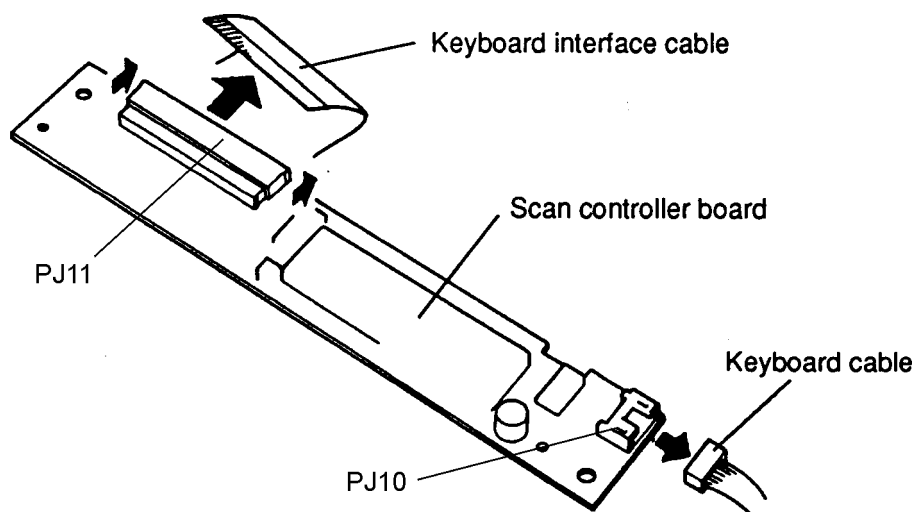

Figure 4-10 Disconnecting the Keyboard Cable and Keyboard Interface Cable
8. Disconnect the **keyboard interface cable** from **PJ11** and the **keyboard cable** from **PJ10** on the **scan controller board** as shown in Figure 4-10.
2. Connect the **keyboard interface cable** to **PJ11** on the **scan controller board**, making sure the silver side of the interface cable is facing up when you connect it (Figure 4-10).
3. Connect the **keyboard cable** to **PJ10** on the **scan controller board** (Figure 4-10).